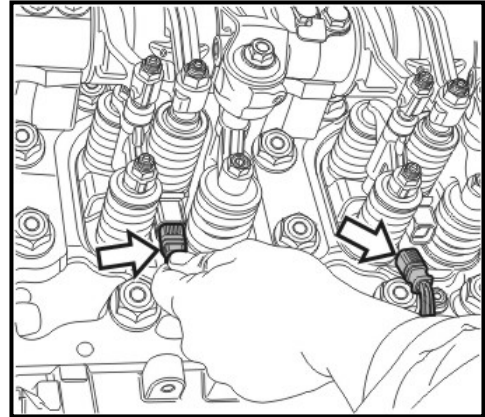

FIGURE 16
3. Connect the harness to the unit injectors (fig. 16). Push the connector until a distinct "click" is heard to ensure the connector is fully engaged.